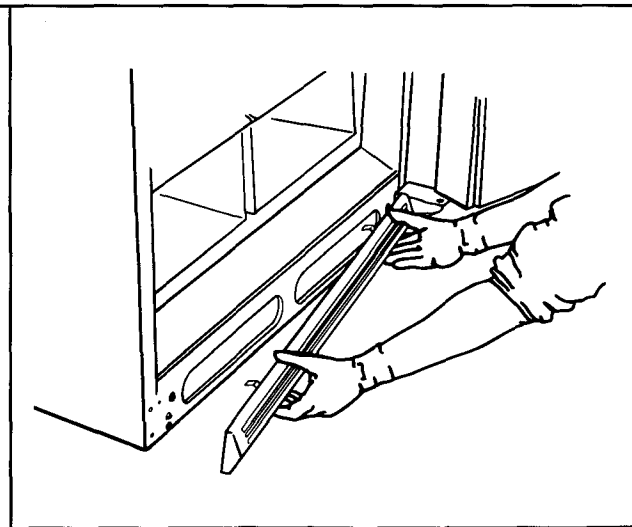

Figure 7
- b. Remove toe grille by grasping and pulling straight out. See Figure 7.